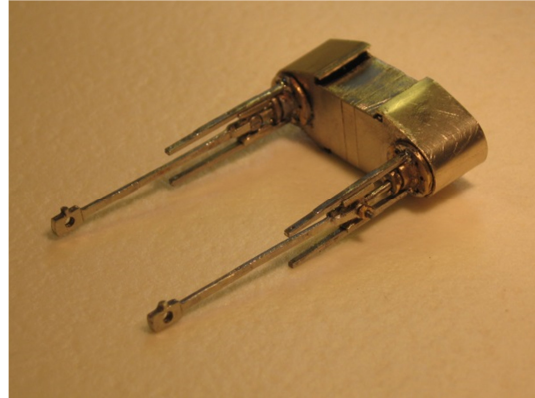

Fig. 35
65. Add the front cylinder covers, using the full disk against the block, with the annular ring to the outside, ensure the pins do not protrude through the casting too far and interfere with the piston rod. Fig 35 & 7. Fig. 36-37
66. The rectangular cylinder flange (32) is fitted across the middle of the front of the casting,